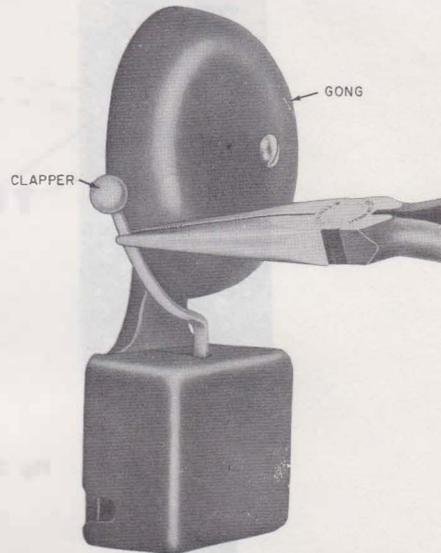

Fig. 23—Adjusting Clapper Movement
4.13 If 7-type bell armature vibrates satisfactorily, but the clapper does not strike gong or clapper arm strikes cover, adjust with long-nose pliers (Fig. 23).